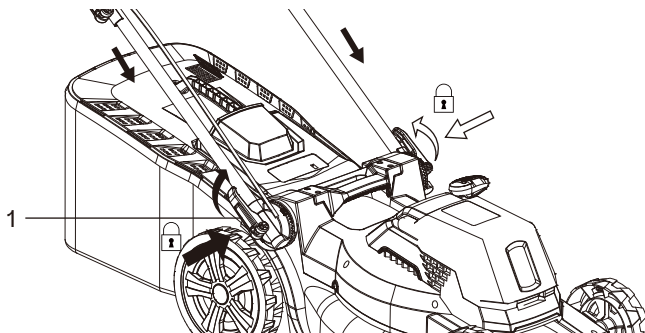

FIG.1
1. Align the mounting hole of the lower handlebar with the bolt of handle support (Fig. 1).
2. Attach the washer to the bolt and secure the lower handlebar by turning the lever(1) up for tightening.